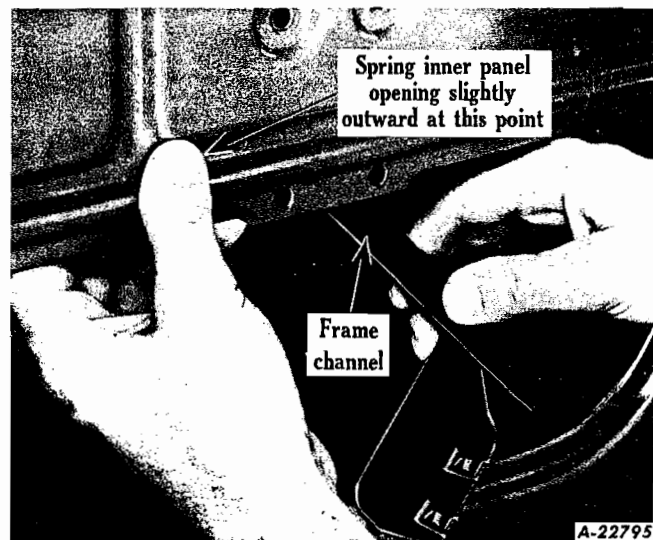

Fig. 13
18. Remove door-glass front channel frame through door inner panel opening rearmost corner. Spring upper portion of inner panel opening slightly outward at point of contact with door-glass front channel frame to permit removal (Fig. 13).